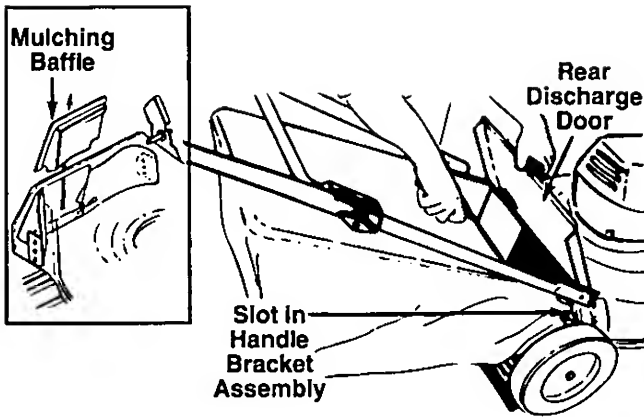

FIGURE 3.
1. Lift the rear discharge door on the mower. Remove the mulching baffle. See figure 3, inset.
2. Place the hooks on the grass catcher into the slots in the handle bracket assemblies. See figure 3. Release the rear discharge door.